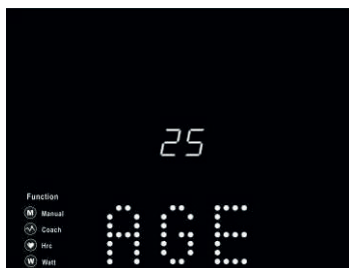

Fig. 14
7. Select HEART RATE to call up the heart rate controlled mode and first set the age with LEVEL (Fig. 14; preset to 25). The set values are not saved permanently, but must always be reset. Press MODE to confirm the value and then select one of the 4 modes (see Fig. 15-18). 'TAG' means that you have to enter the value for the heart rate target manually, the percentages refer to the maximum heart rate ($220 - \text{age}$). You can now set a target time. Press START to begin training. During training, the load automatically adapts to the change in heart rate; if no heart rate is detected, the display shows a heart symbol with a question mark (Fig. 19). Press the STOP button or stop the training after reaching a preset time value and then press RESET to return to the start page.